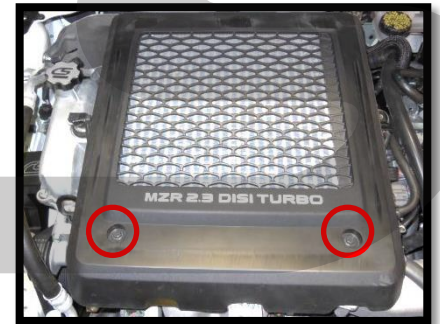

Figure 1b
b) Remove the two 10mm bolts fastening intercooler shroud to the intercooler. Push the shroud towards the firewall to unhook it and remove it from the vehicle (red circles in Figure 1b).